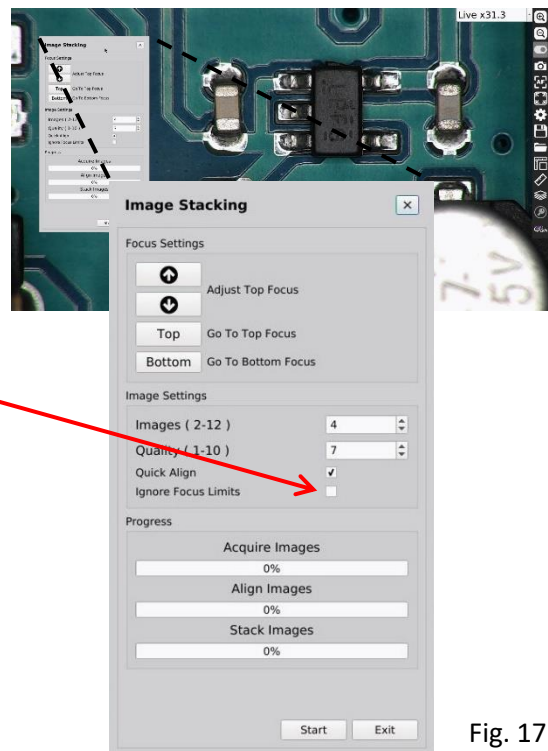

Fig. 17
1. Click on the Image Stacking icon. This will display the Extended Focus window (Fig.17).